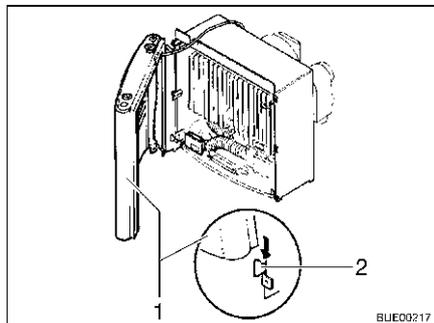

Fig. 126 Heater cover, retaining clips
- Mount the heater cover. To do this, place the cover (Fig. 126,1) on the lower retaining clips (Fig. 126,2).